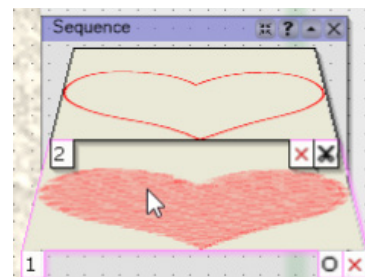

Fig. 19
8. Select the heart Fill by clicking on the plate in the *Sequence Manager* (See Fig. 19).